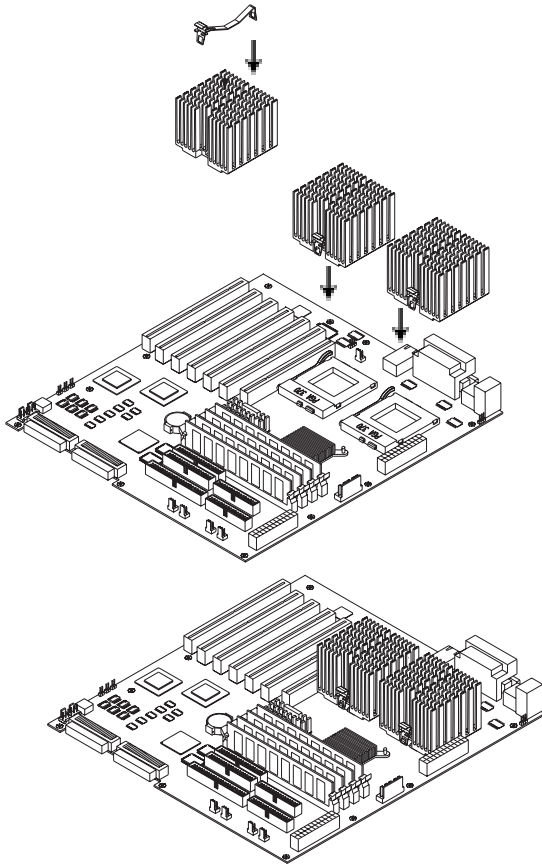

Figure 5-4 Heat Sink Installation
- **Overheat:** Indicates an overheat condition in the chassis. This may be caused by cables obstructing the airflow in the system, or the ambient room temperature being too warm. You should also check to make sure that the chassis cover is installed and that all fans are present and operating normally. Make certain that the heat sinks are installed properly (see section 5-5 and figure 5-4) and make certain that the chassis top cover is in place during server operation to assure proper cooling air circulation.
Two passive heat sinks (one for each processor) have been included with your SuperServer 6021F. Secure a heat sink to each processor with a suitable thermal compound to best conduct the heat from the processor to the heat sink. Make sure that you apply the compound evenly and that good contact is made between the CPU chip (the die) and the heat sink. Insufficient contact or improper types of heat sinks and thermal compounds can cause the processor to overheat, which may crash the system. See figure 5-4 for heat sink installation diagrams.